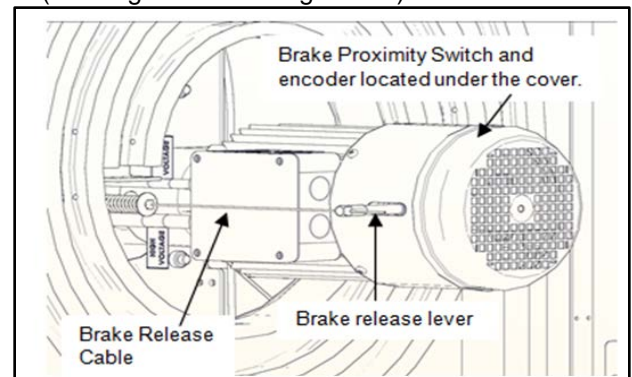

Figure 61
3. Disconnect the old brake release cable from the electric brake mechanism by removing the cable clamps, washers, and spring. Save all hardware. (See Figure 61 and Figure 62.)